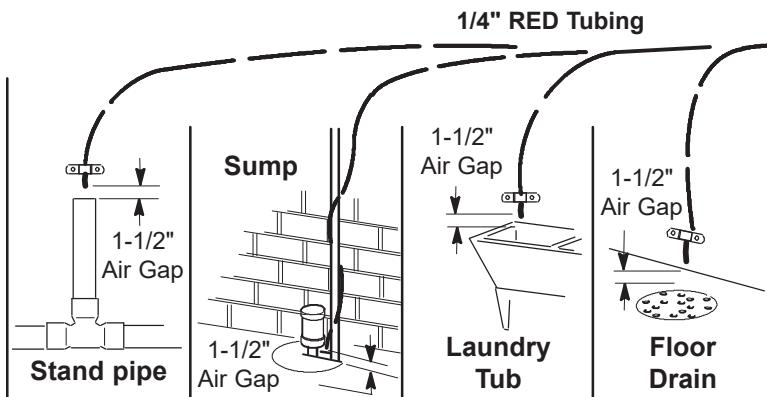

FIG. 12
Route the drain tubing to an existing drain in the house. A floor drain, laundry tub, standpipe, sump, etc. are suitable drain points. See Fig. 12. This type of drain is the preferred over the p-trap drain adaptor.
- Route the tubing to the drain point and secure at the end with a bracket (not included). See Fig. 12. Provide a 1-1/2" air gap between the end of the tube and the drain. See Fig. 12.